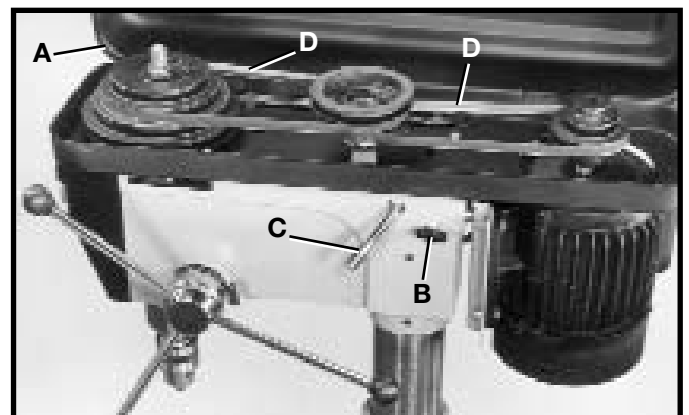

Fig. 26
2. Lift up the belt and pulley guard (A) Fig. 26.
3. Loosen the two lock knobs, one of which is shown at (B) Fig. 26. The remaining lock knob is located on the opposite side of the head casting.
4. Release belt tension by moving tension lever (C) Fig. 26, forward.
5. Position the two belts (D) Fig. 26, on the desired steps of the motor, center and spindle pulleys.
6. After the belts (D) Fig. 26, are positioned on the desired steps of the motor, center and spindle pulleys, move tension lever (C) to the rear until the belts (D) are properly tensioned and tighten the two tension lock knobs (B). The belts (D) should be just tight enough to prevent slipping. Excessive tension will reduce the life of the belts, pulleys and bearings. Correct tension is obtained when the belts (D) can be flexed about 1 out of line midway between the pulleys using light finger pressure.